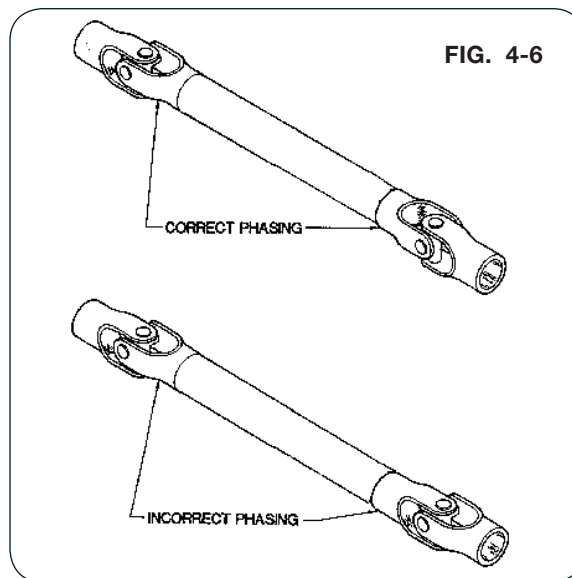
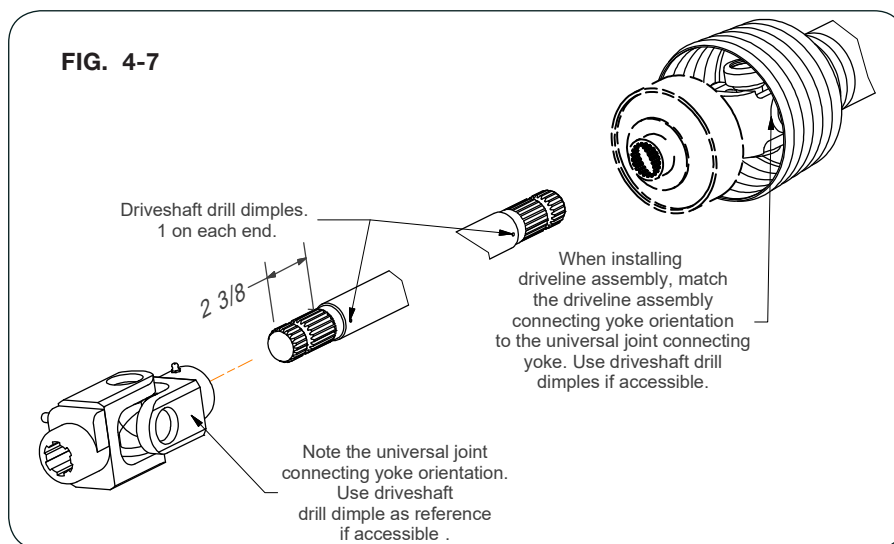

FIG. 4-6
FIG. 4-7
6. Rotate auger 360 degrees to ensure it is centered on the drive bushing weldment (286436) and the five pins are engaged with auger end. Check for flighting interference or binding along housing and at lower end. A portion of flighting may need to be removed from lower end of auger to ensure operational clearances. (Fig. 4-6 & Fig. 4-7)